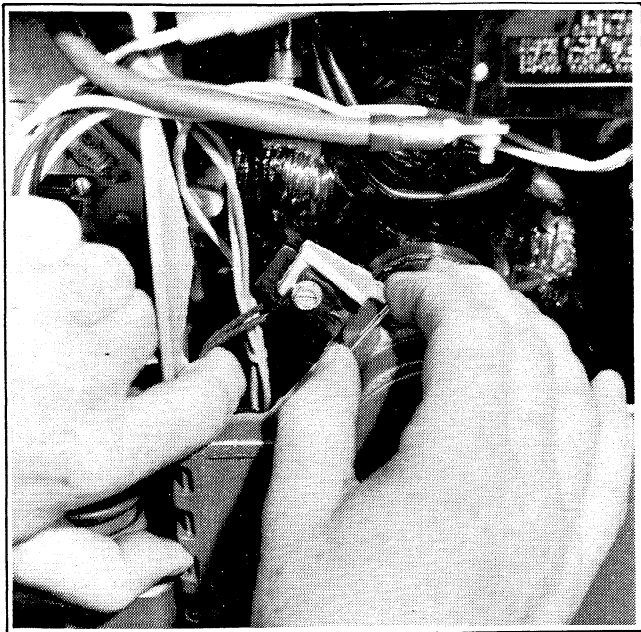

Figure 6-12. Locking Brushes
12. Lift the brushes by the leads and lock in this position by inserting a retainer wire as shown in Figure 6-12.